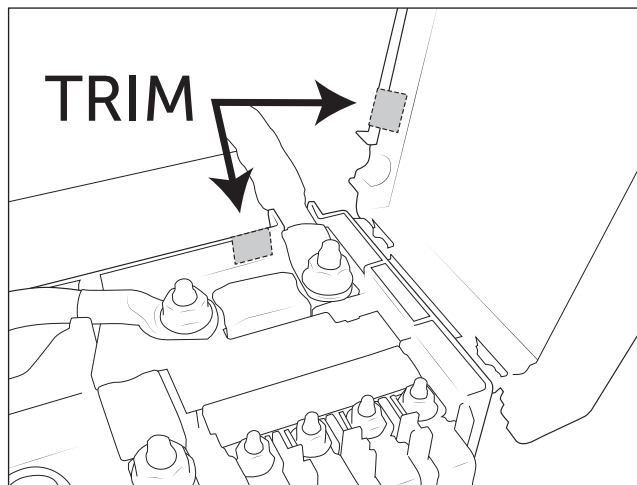

Figure 23
21. Trim the battery box and lid to make space for the positive winch connection (fig. 23).